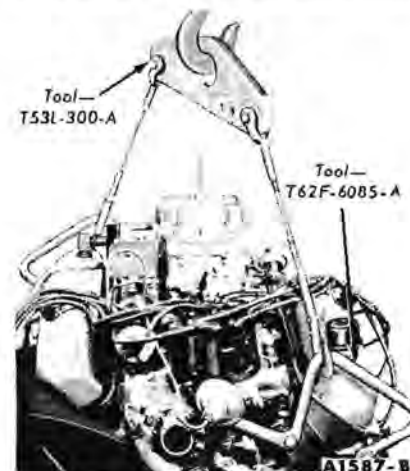

FIG. 55—Engine Lifting Brackets and Sling—Typical
14. Lower the car, then support the transmission. Install the engine left lifting bracket at the front of the left cylinder head, and install the engine right lifting bracket at the rear of the right cylinder head; then attach the engine lifting sling (Fig. 55).
2. Attach the engine lifting brackets and sling (Fig. 55). Remove the engine from the work stand.